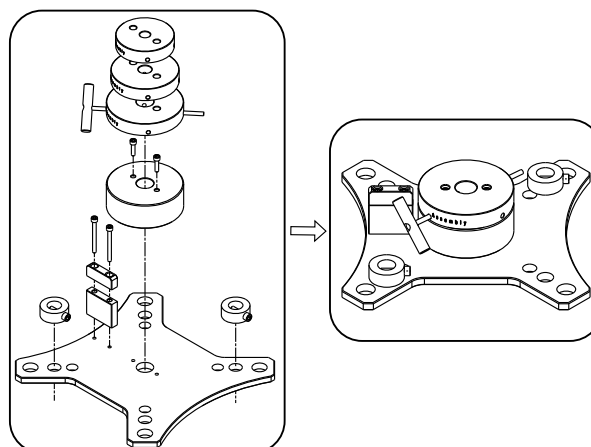

Fig. 20 Service tool H2
- Assemble service tool H2. See fig. 20.